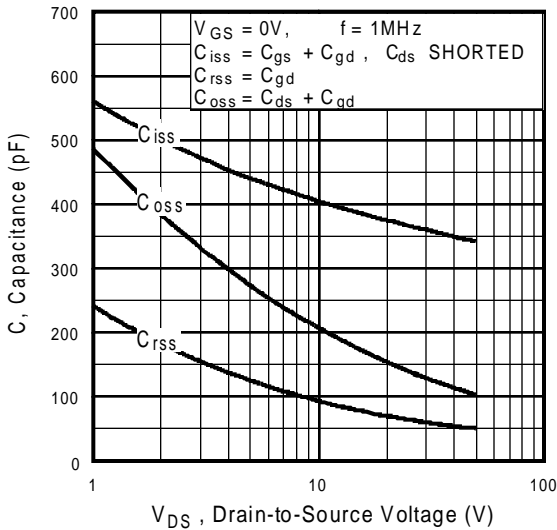

Fig 5. Typical Capacitance Vs. Drain-to-Source Voltage
| C_{rss} | Reverse Transfer Capacitance | — | 65 | — | | $f = 1.0\text{MHz}$, See Fig. 5⑥ |